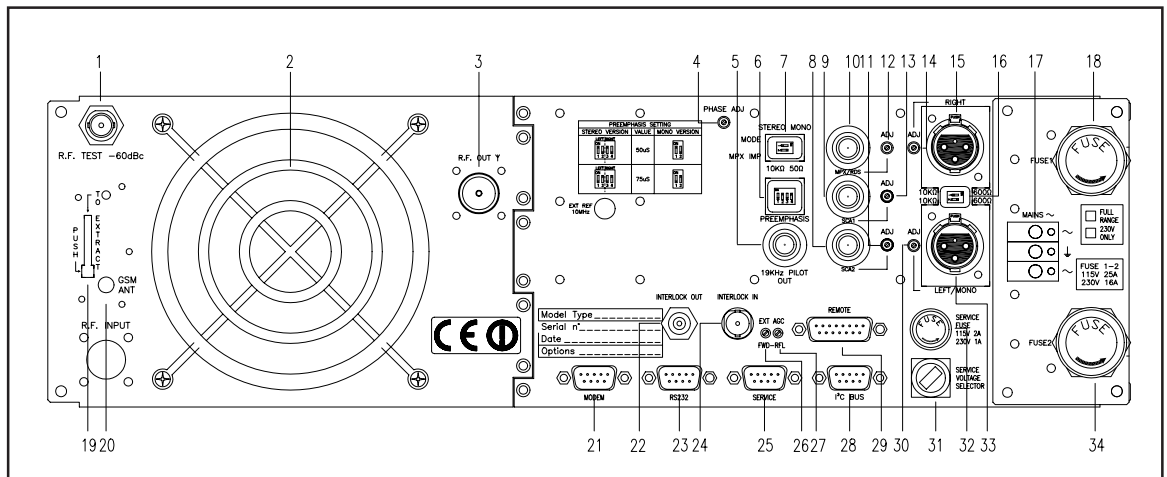

Figure 6.2
- PgD** Regulation of the Power Good threshold relative to the forward power. The percentage value of Power Good is referred to the nominal power of the machine, that is 1000 W, not to the supplied forward power. If a value equal to 50% is setted, it will correspond indifferently to 500 W from the set up power. The Power Good function is a control and alarm function on the supplied power. When the output power fall under the threshold value of Power Good set, the machine modifies the pin state [7] of "Remote" DB15 connector on the rear panel (figure 6.2 note [29]).